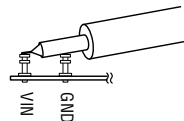

Figure 2. Measuring Input or Output Ripple
**When measuring the input or output voltage ripple, care must be taken to avoid a long ground lead on the oscilloscope probe. Measure the input or output voltage ripple by touching the probe tip directly across the input or one of the outputs and GND terminals. See Figure 2 for proper scope probe technique.**